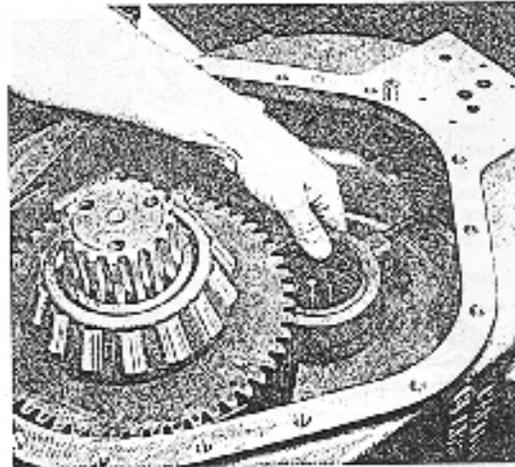

Figure 38. Locating Rear Commutator In Housing.
2. With anti-rotation stud and new O-rings installed, rest rear commutator in place in housing. See fig. 38.